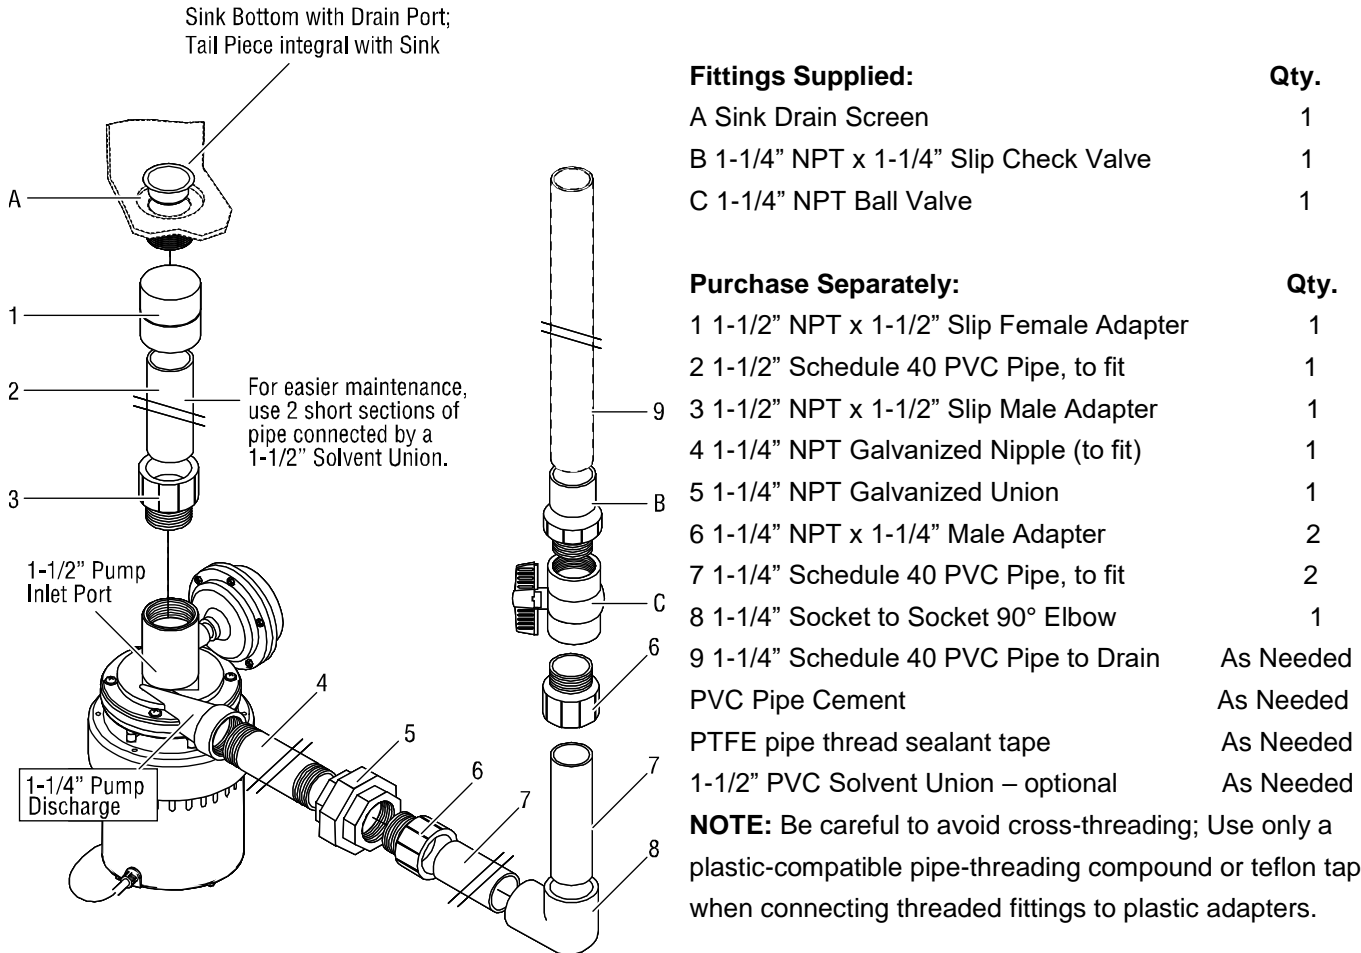

Figure 1: Typical method of mounting the pump
(SEE FIGURES 1 AND 2)
12. Install the discharge piping as shown in Figures 1 and 2. The order is:
- e. Flow Control/Ball Valve (C), Check Valve (B)